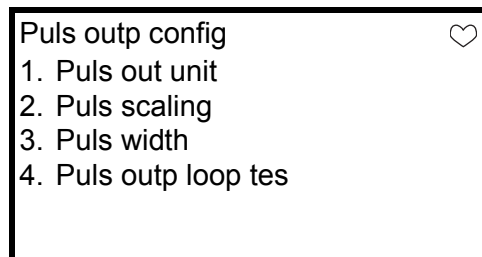

Figure 24 Transmitting the setting
5. After returning to the Puls outp config menu, select F2 (SEND) to transmit the change to the converter. The HART[®] communicator mark will appear in the upper right hand corner of the display while HART is communicating with device. (Figure 24) The mark will disappear once communication has been properly completed.
3. After returning to the Puls output config menu, select F2 (SEND) to transmit the change to the converter. The HART[®] Communicator mark will appear in the upper right hand corner while HART is communicating with the device. (Figure 24) The mark will disappear once communication has been properly completed.
3. After returning to the totalizer menu, press F2 (SEND) to transmit the change to the converter. The HART[®] Communicator mark will appear in the upper right hand corner while HART is communicating with the device. (Figure 24) The mark will disappear once communication has been properly completed.